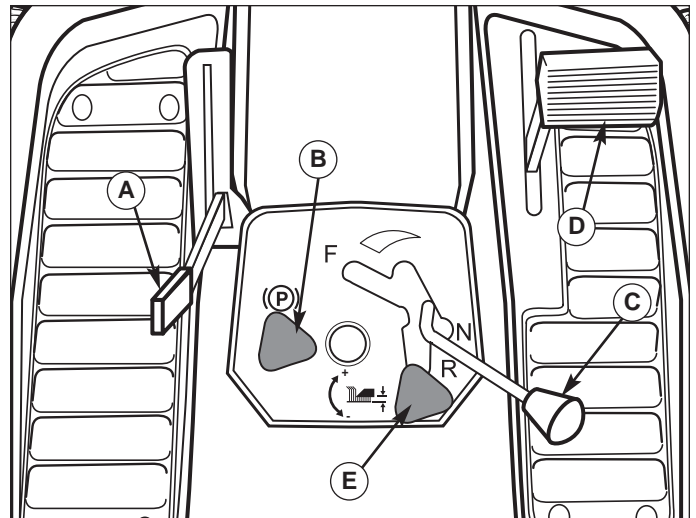

Figure 3. Controls
1. Seat yourself on the rider seat in the operating position. Set the parking brake using the brake pedal (D, Figure 3) and parking brake knob (B).